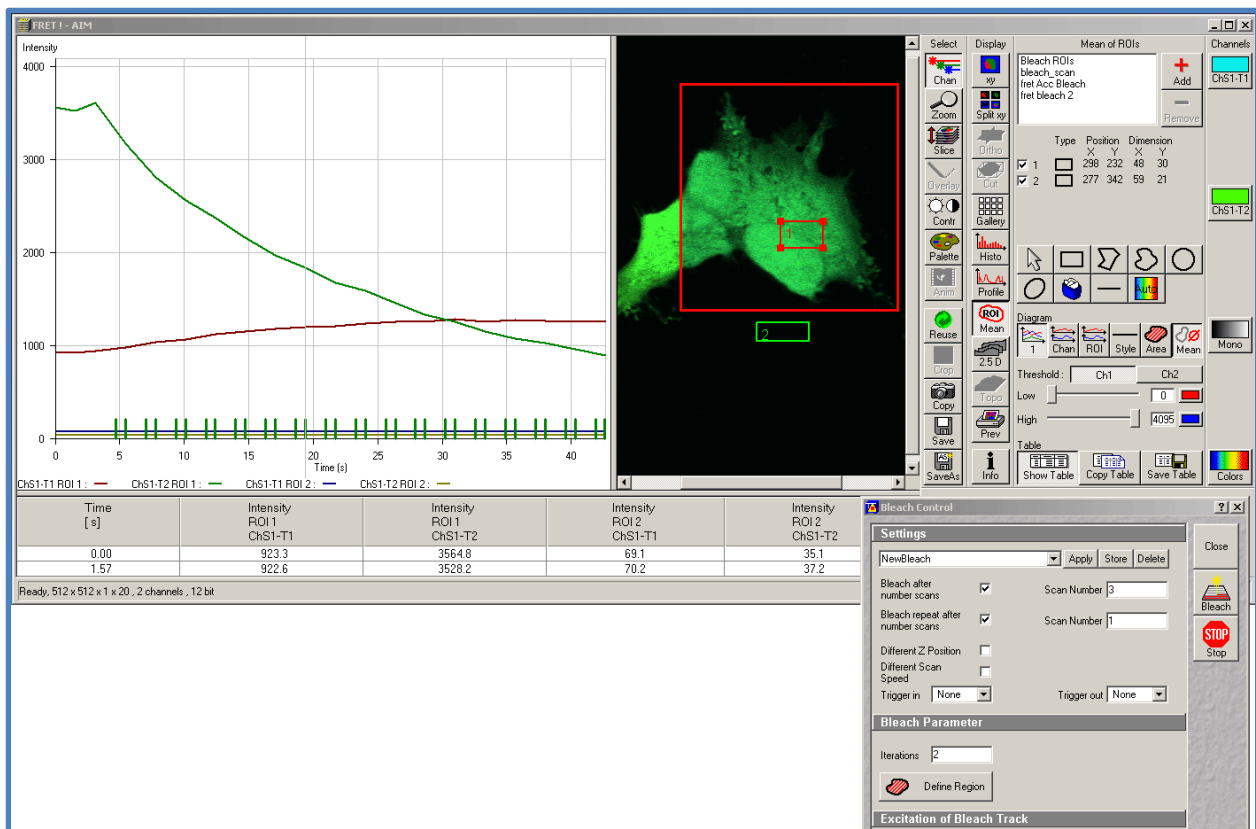
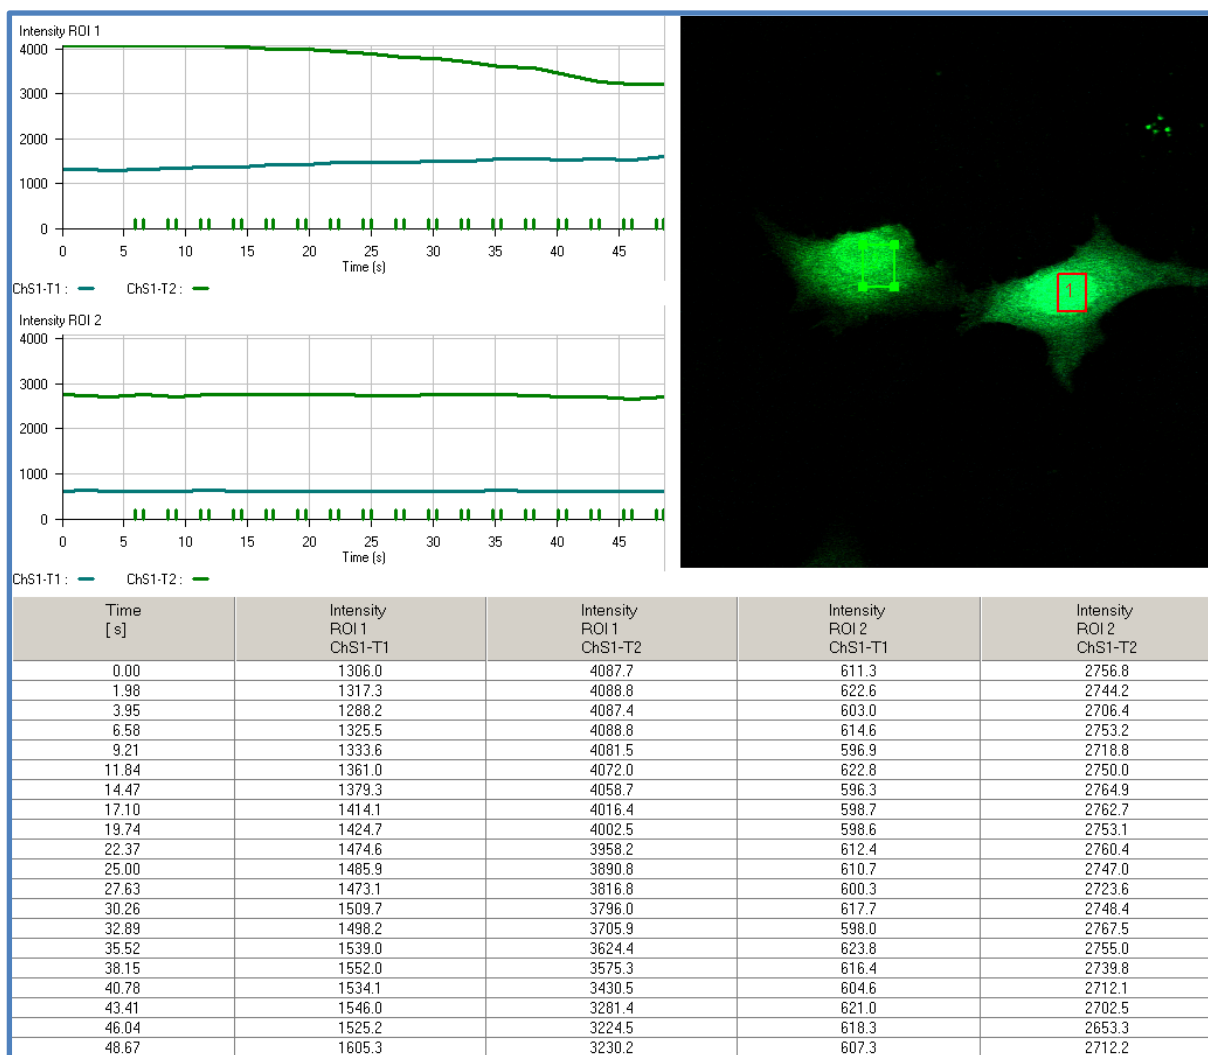
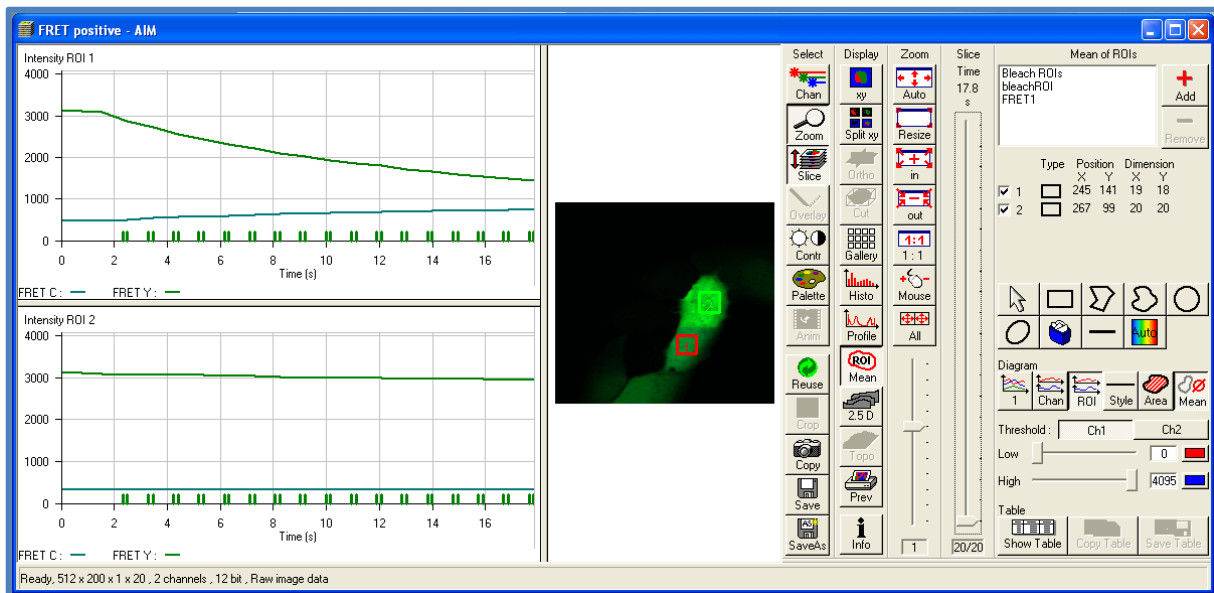

Figure 3.
Figure 4.
Figure 5.
- Adjust the number of bleach iterations in each bleach event to achieve a steady bleaching curve (see Figure 3 green curve, for an example of a bleaching curve).
- To analyse the time series data in the Zeiss software, go to Mean ROI in the image window. Draw an ROI **within** the cell/object and generate a graph over time for the two channels. If FRET is occurring then a decrease in acceptor signal should be accompanied by an increase in donor signal (see Figure 3, Figure 4 and Figure 5 ).